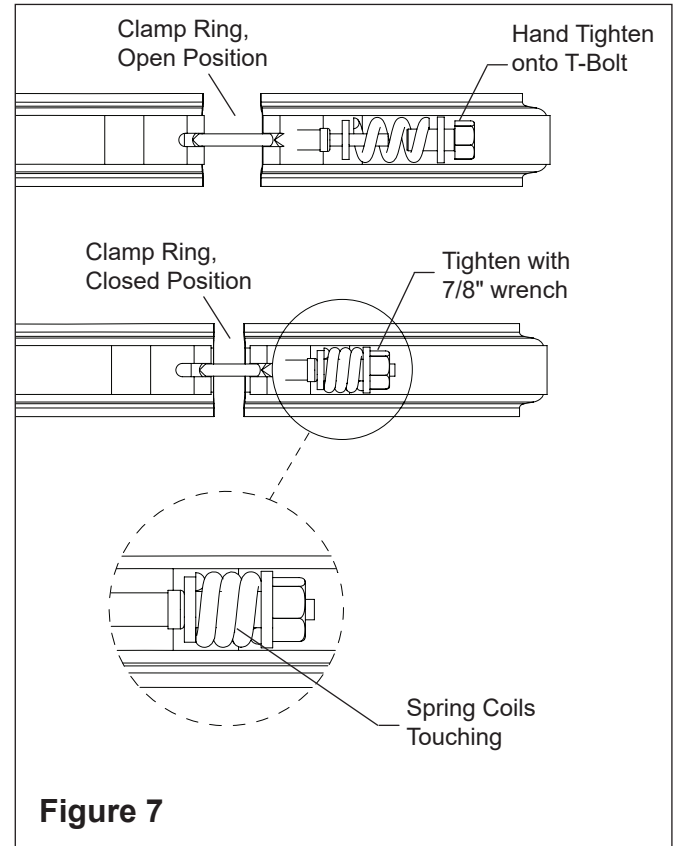

Figure 7
- Note:** The clamp ring is installed correctly only when the spring coils remain touching after tapping the clamp ring see **Figure 7**.